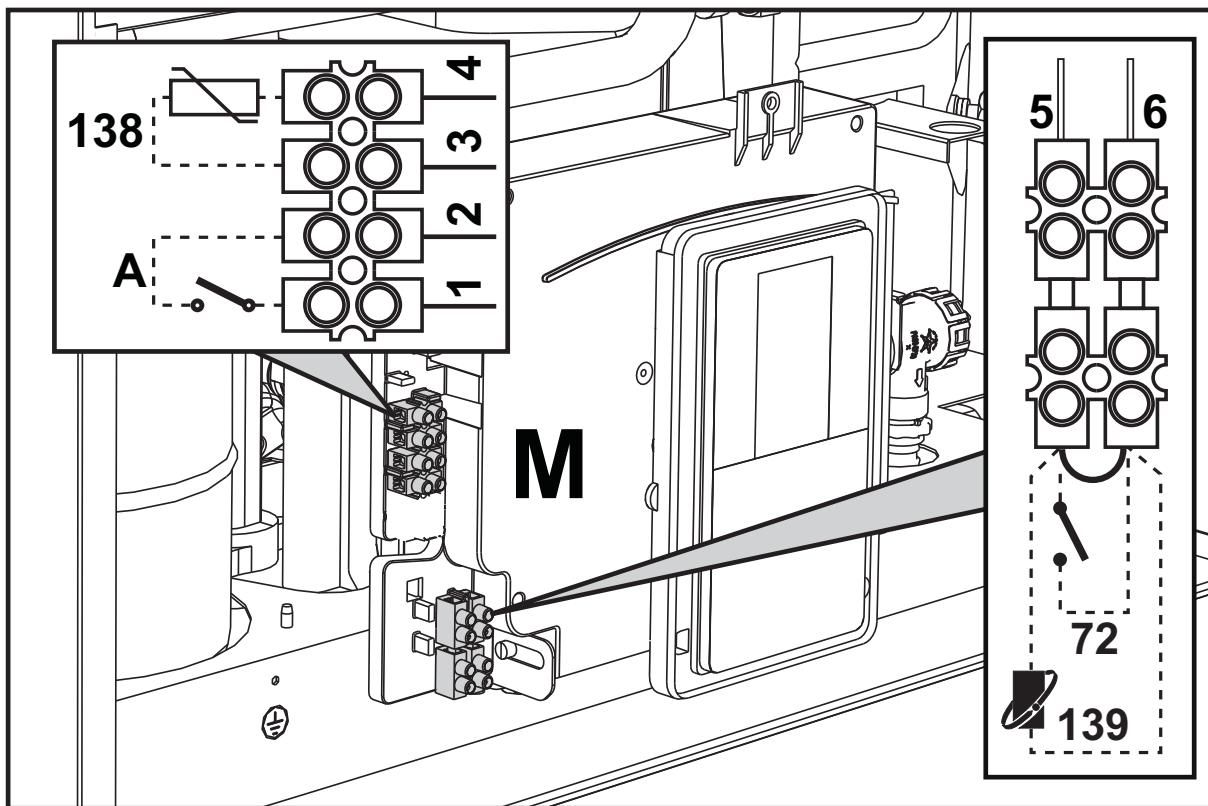

fig. 28
After removing the front panel ("Opening the front panel" on page 348) it is possible to access the terminal blocks (M) and the fuse (F) following the directions given below. **The terminals indicated in fig. 28 must be with voltage-free contacts (not 230V).** The arrangement of the terminals for the various connections is also given in the wiring diagram in fig. 64.
ON OFF switch configuration (A fig. 28)